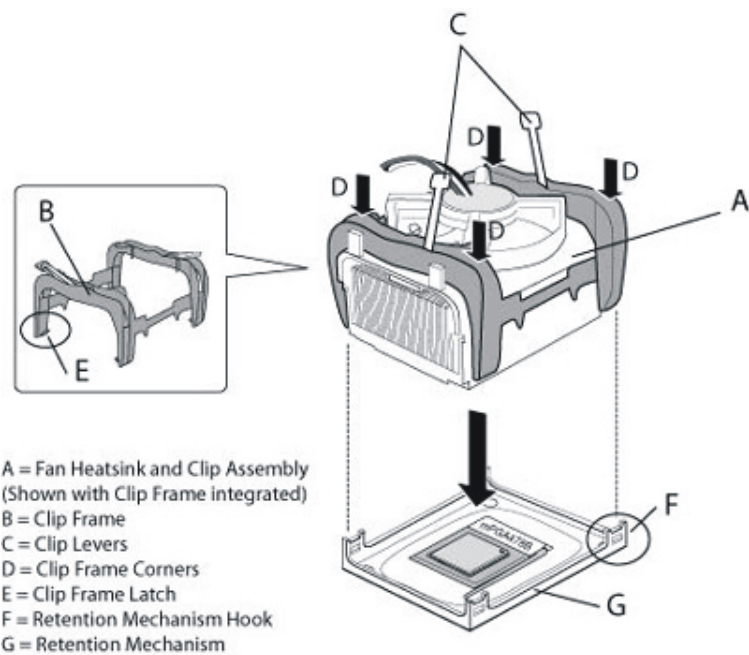
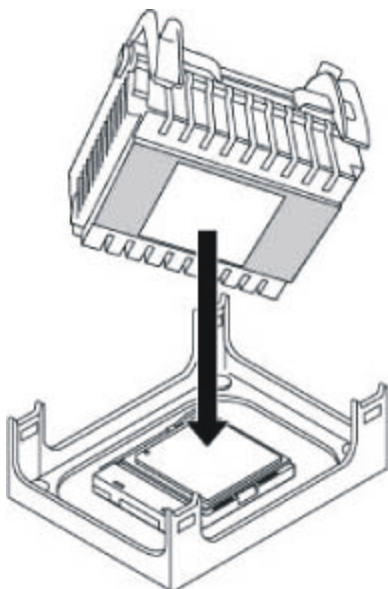

Figure 3-9: Installing the Fan Heatsink (1)
Figure 3-10: Installing the Fan Heatsink (2)
1. The heatsink has a thermal interface material attached to the bottom, shown in Figure 3-10. Do not damage the thermal interface material while installing.
2. Align the fan heatsink and slip assembly (A in Figure 3-9) with the retention mechanism (the fan heatsink is symmetrical) and place it on the processor (as shown in Figure 3-10). Allow the heatsink base to compress (without rotating or twisting) the thermal interface material over the surface of the processor's integrated heat spreader.
3. With the clip levers (C in Figure 3-9) in the upward position, push down on all four clip frame corners (D in Figure 3-9) to secure the clip frame latches (E in Figure 3-9) to the retention mechanism hooks (F in Figure 3-9), as shown in Figure 3-11.
Note: *Make sure the processor fan cable is free from any obstruction and is not trapped under slip frame (B in Figure 3-9)*